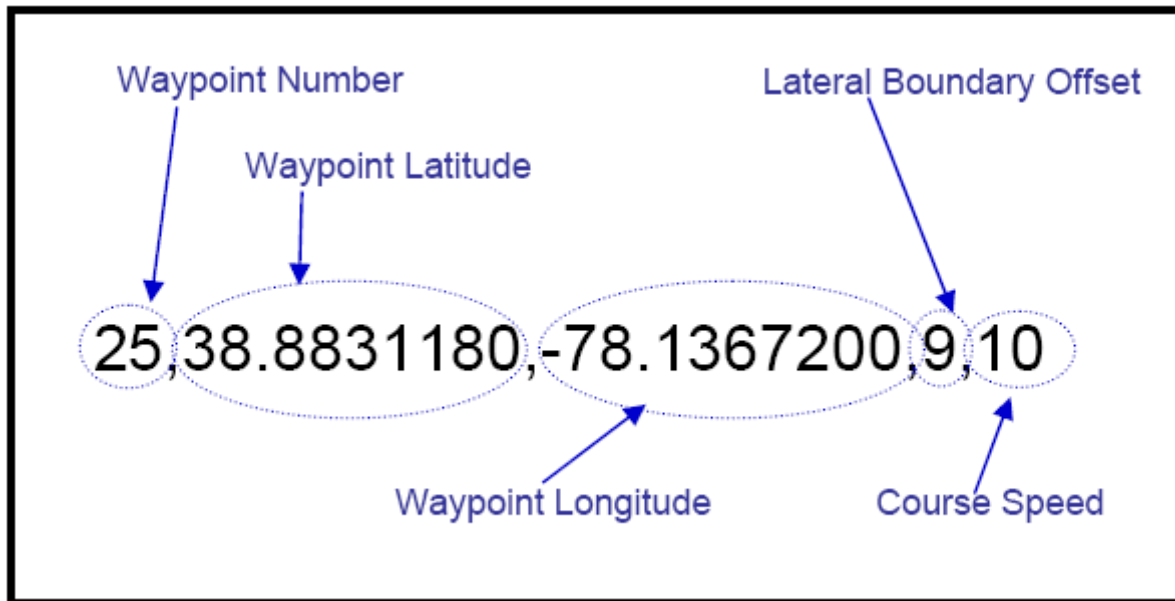

Figure 3: Data describing one waypoint in the RDDF (source: http://www.darpa.mil/grandchallenge05/RDDF_Document.pdf)
- geographic: the driving area encloses a set of waypoints, and is overlaid with a grid of meridians and parallels, at intervals of 0.00001 degrees of longitude and latitude (Figure 1). The waypoints are pre-defined locations which the cart must pass, and they are given as latitudes and longitudes on a geographic map. They are loaded into the simulation from a waypoints file, which is named "RDDF.txt", and must be present in the simulator's directory (see the example file, which is provided with the simulator; also Figure 3). In the real driving exercises, the waypoints will be actual marked locations of the ground, and you will be given the corresponding waypoints file to use in your driver program.